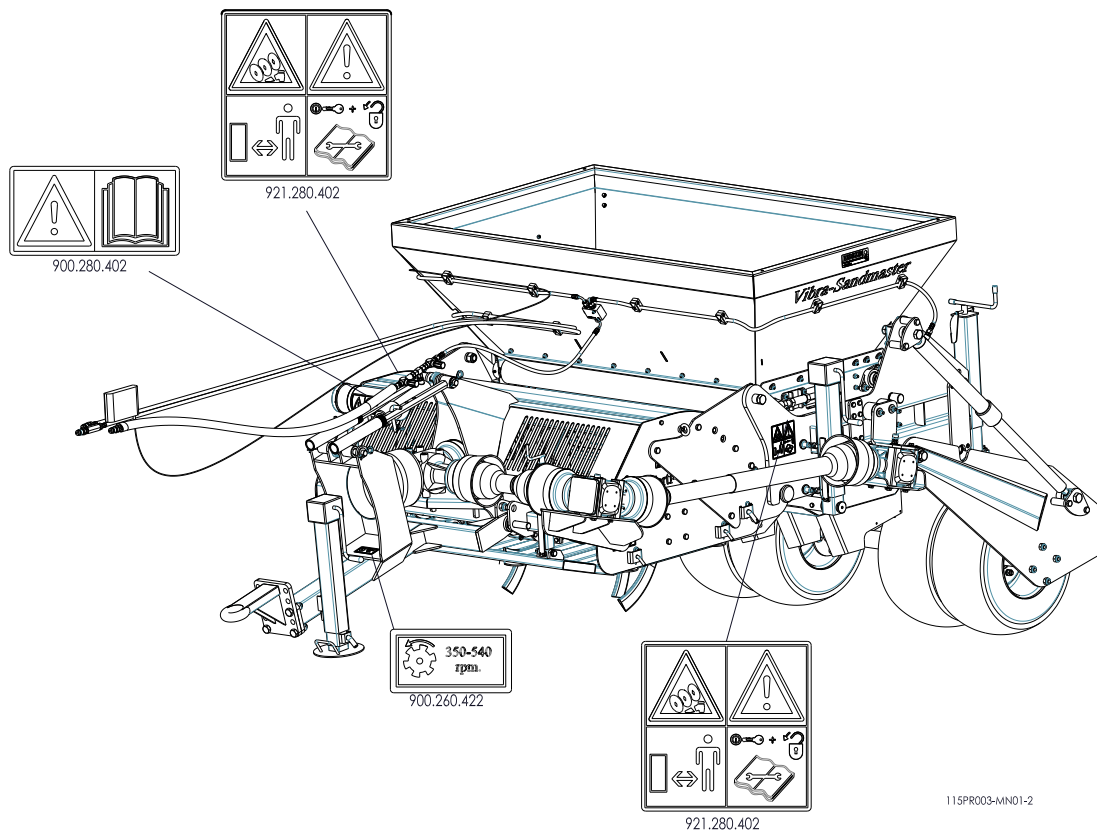

Fig. 5
There are safety stickers (Fig.5) on both sides of the Vibra-Sandmaster, one on the side panel (Fig. with an identical meaning. These safety stickers must be clearly visible and legible at all times and replaced when damaged.
(7) Locations of safety stickers. (Fig 5).